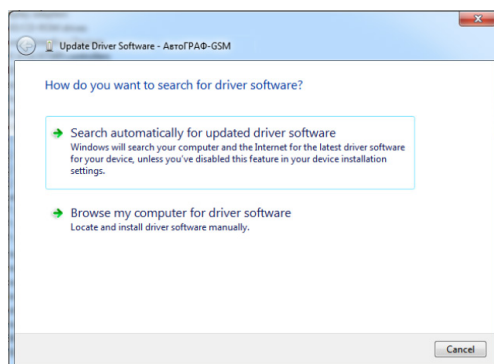

Fig.2.
3. Launch the driver update wizard and select «Browse my computer for driver software» to search for drivers manually (Fig.2).